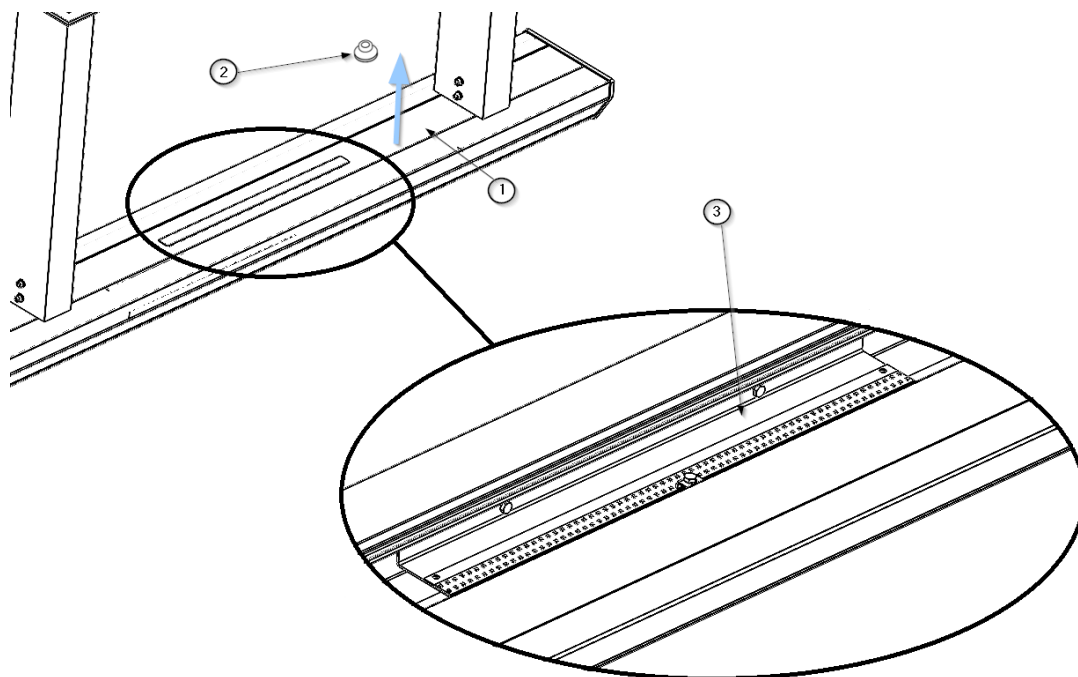

Fig. 4 Removal of main body cover
- Disconnect the power supply of the controller ⑥ and the quick connector of the LED strips ②
- Unscrew the M4 x16 hex screws ① DIN 933 releasing the LED strip ② from the lighting module bracket ③ as shown in figure 4.
- tabs ⑥ holding the controllers ⑦.